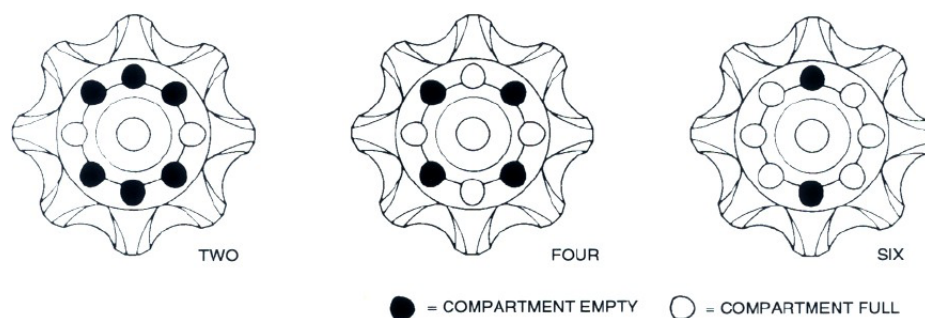

Figure 2-2. Rotor Balancing
- b. when using less than eight tubes, the rotor can be operated at its maximum allowable speed with two, four, or six samples, if opposing pairs of tubes are positioned as shown in figure 2-2;